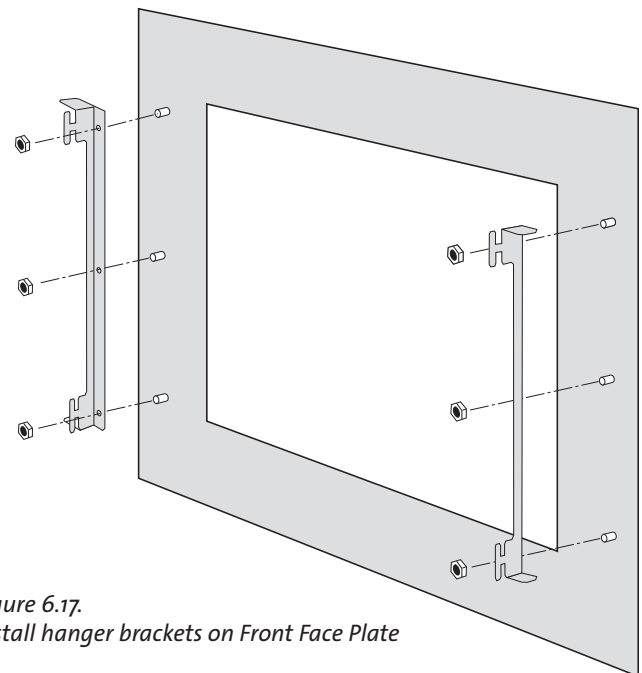

Figure 6.17.
1. Use a 1/4" wrench or socket driver to install the two Face Plate Hanger Brackets onto the back of the Face Plate using the pre-installed nuts as shown in Fig. 6.17.